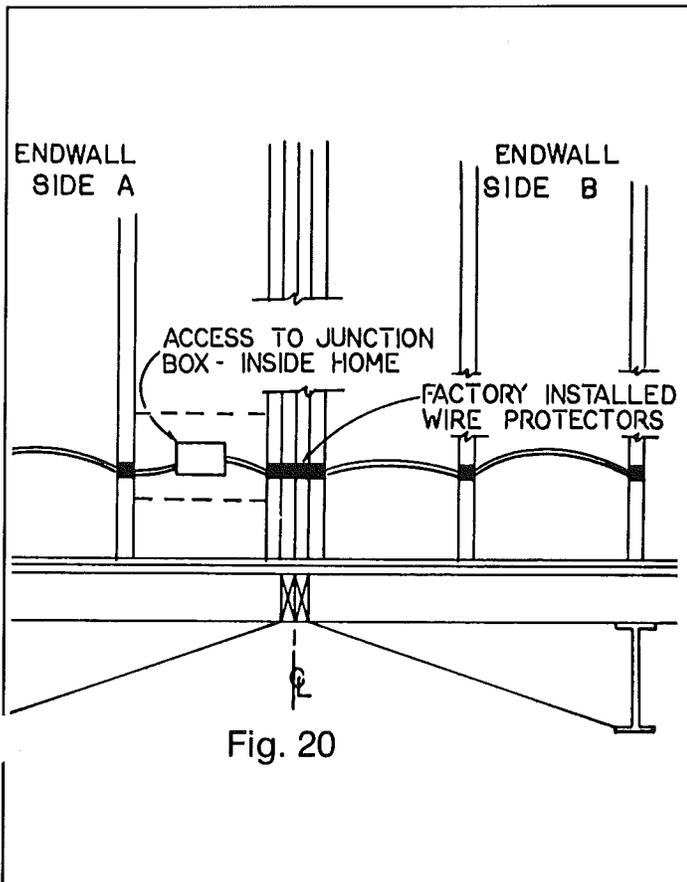

Fig. 20
1. Feed wires from Side B through metallic wire protectors into junction box in Side A (See Fig. 20).